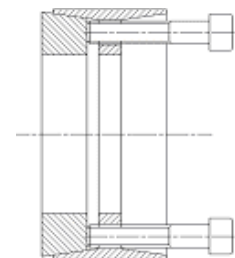

Fig. 3
9.4 Insert as much of the screws in the flange of outer ring them into the release holes, turning until they abut with the rear inner ring. (see Fig. 3)